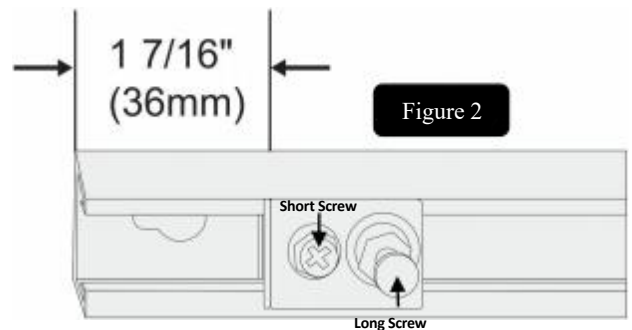

Figure 2
Step 2: Secure upper pivot as shown (Figure 2). The distance from the edge of upper pivot to the edge of track should be 1 7/16" (36 mm).